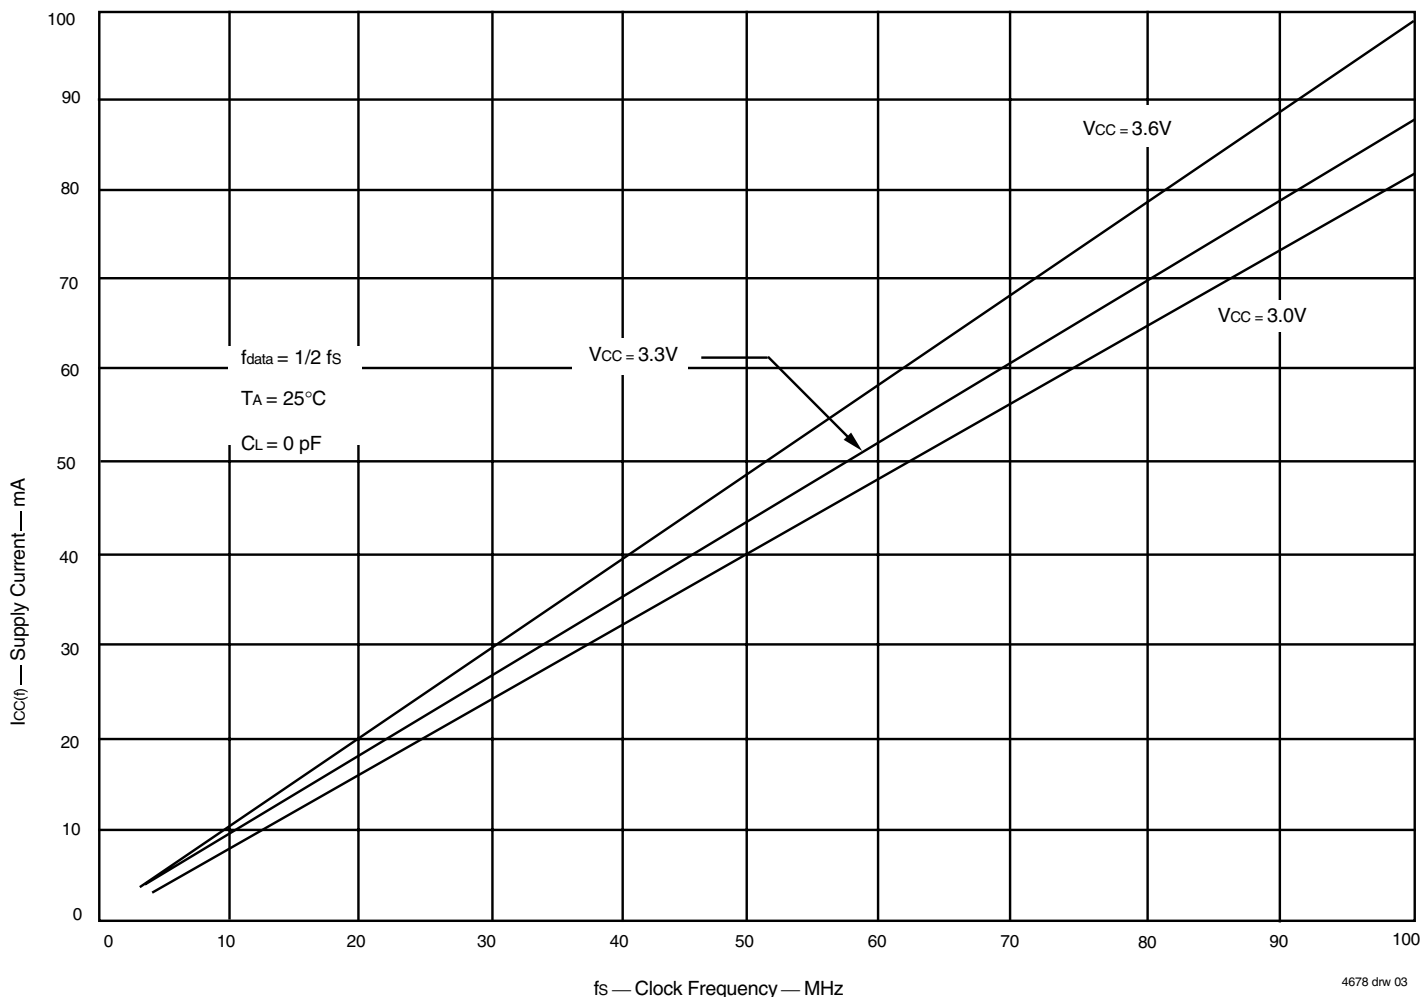

Figure 1. Typical Characteristics: Supply Current (I_{CC}) vs. Clock Frequency (f_s)
- For additional I_{CC} information, see Figure 1, Typical Characteristics: Supply Current (I_{CC}) vs. Clock Frequency (f_s).
The $I_{CC(f)}$ current for the graph in Figure 1 was taken while simultaneously reading and writing a FIFO on the IDT72V3683/72V3693/72V36103 with CLKA and CLKB set to f_s . All data inputs and data outputs change state during each clock cycle to consume the highest supply current. Data outputs were disconnected to normalize the graph to a zero capacitance load. Once the capacitance load per data-output channel and the number of IDT72V3683/72V3693/72V36103 inputs driven by TTL HIGH levels are known, the power dissipation can be calculated with the equation below.
With $I_{CC(f)}$ taken from Figure 1, the maximum power dissipation (PT) of these FIFOs may be calculated by: